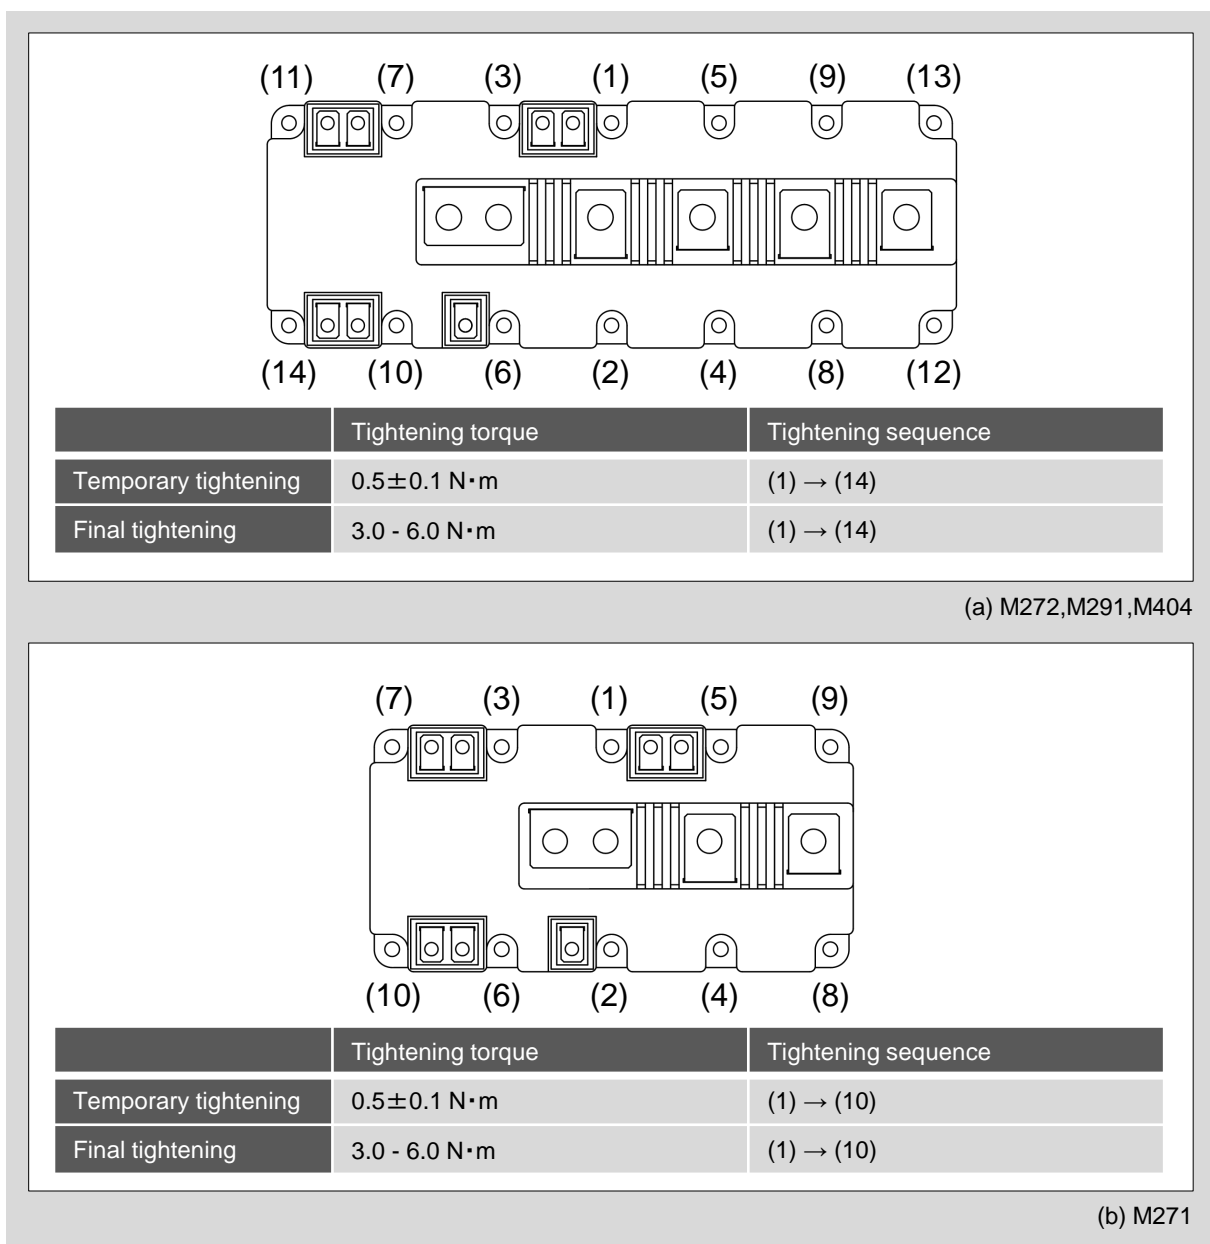

Fig. 3 Tightening torque and tightening sequence
1. Perform temporary tightening with  $0.5\text{N}\cdot\text{m}$ . Fig.3 shows the tightening sequence.